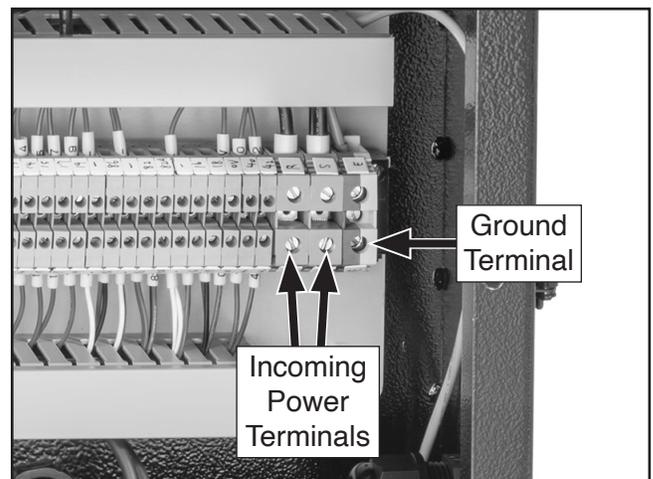

Figure 28. Ground and power wire terminals.
During next step, incoming ground wire **MUST** be connected to correct terminal to ensure machine will be properly grounded (see "Ground Terminal" in **Figure 28**). Ungrounded or improperly grounded machine can cause electrocution if live electrical wires make contact with frame or other parts touched by operator.
6. Connect ground wire to bottom of ground terminal "E", then connect incoming power wires to "R" and "S" terminals shown in **Figure 28**.